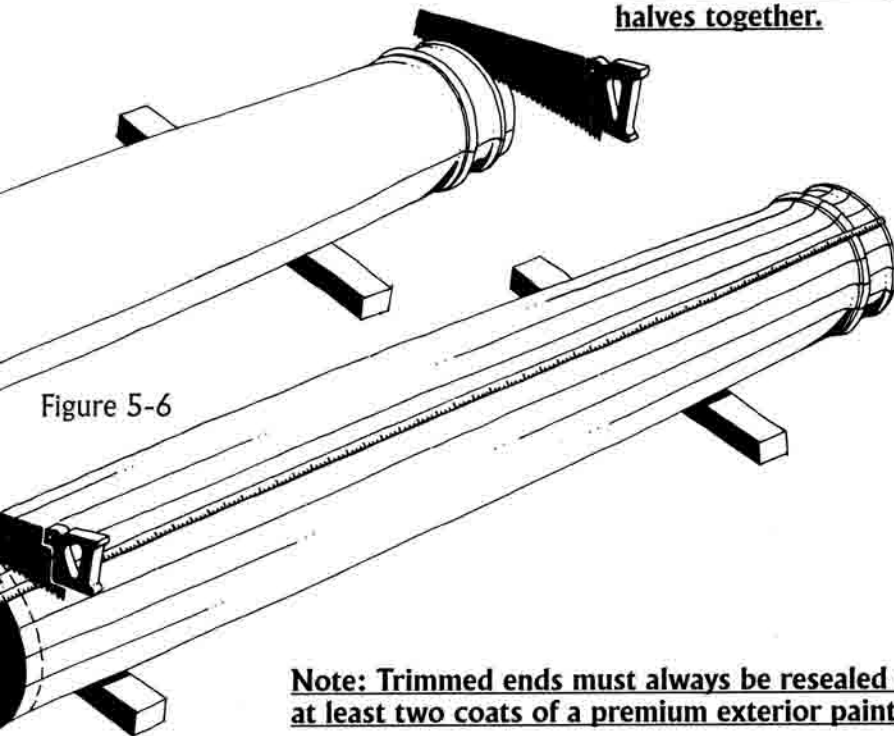

Figure 5-6
3. Then measure carefully from the top of the trimmed shaft, along with the edge of at least three staves, around the circumference of the shaft to determine the bottom trim line (Fig. 5-6). Using cardboard or other flexible material, draw a trim line completely around the shaft. By carefully following this procedure, you will ensure that the shaft top and bottom cuts remain square to the centerline of the shaft.